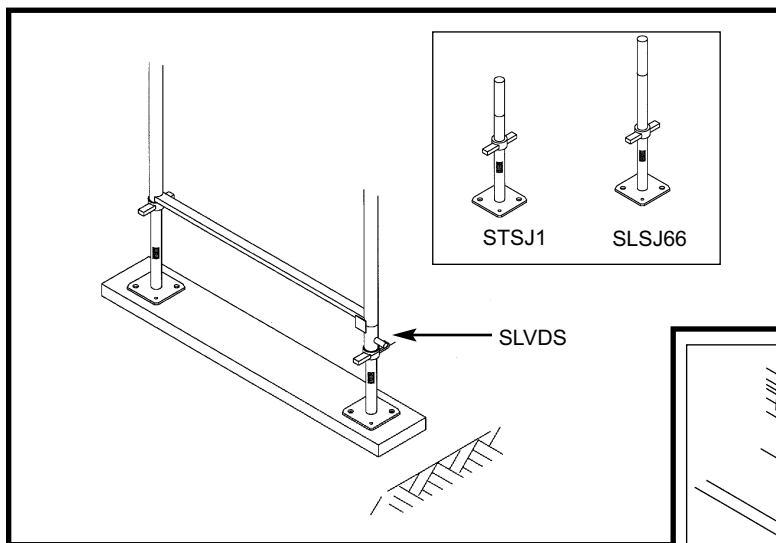

Figure 1: Screw Jack Adjustment
2.2.3 Base Support: A horizontal rail (SLGR_) is required at the base of all Safway SL Frame Scaffold installations. This member is installed on the outside frame leg prior to installing the SL frame, is continuous on run scaffolds and is fastened to either a Base Support (SLBS) or to a Vertical Diagonal Starter (SLVDS) (See Figs. 1 and 2).
2.2.2 Screw Jacks with Base Plates: Scaffold frames must always be supported by means of Screw Jacks with base plates and sills where required (see paragraph 2.2.1 and Fig. 1). Two lengths of Screw Jacks are available, the Safway Systems™ Screw Jack (STSJ1) which is 21 inches (53.3 cm) long and the SL Frame